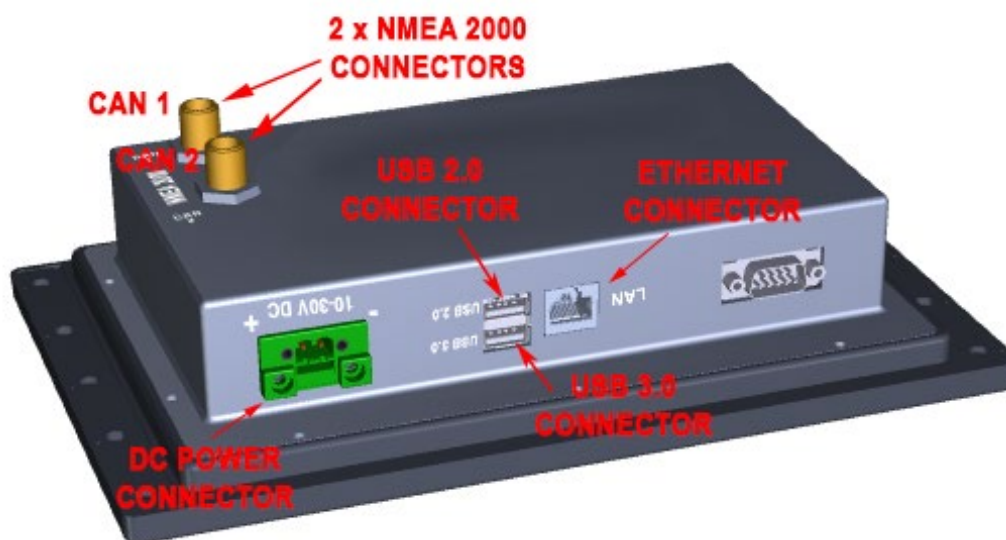

Figure 5 – TSM810C Bottom and Rear Panels
The bottom panel and rear panel of the TSM810C is shown in Figure 5.
Step 1: Locate the USB connectors. The locations of the USB connectors are shown in Figure 5.